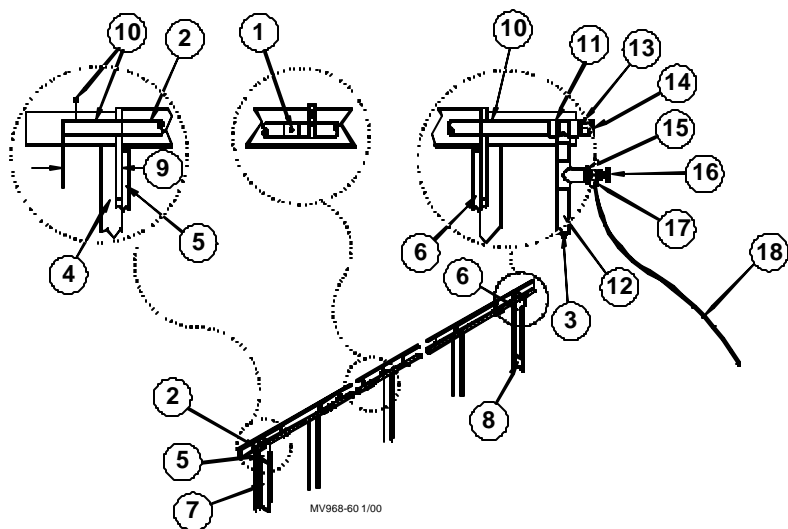

Figure 20. Distribution Pipe Installation
Note: The belled end must be away from the sump end (See Figure 20).
4. At the Sump End of the system the Distribution Pipe should extend 8" [20.32 cm] beyond the edge of the End Panel (See Item 9, Figure 20).
6. **Bleed-Off Valve and sediment trap installation:** At the end of the Distribution Pipe, opposite the sump end, install the PVC fittings as shown in Figure 20. Use two pieces of 1-1/2" PVC pipe cut 6"-12" long. For systems with the Sump in the center of the system, Bleed-Off Valve fittings are installed only at one end of the Distribution Pipe.
7. **Bleed-Off Hose:** Route the Bleed-Off Hose (Item 18, Figure 20) to a drain for waste water. **Do not** run the Bleed-Off Hose back into the Trough.